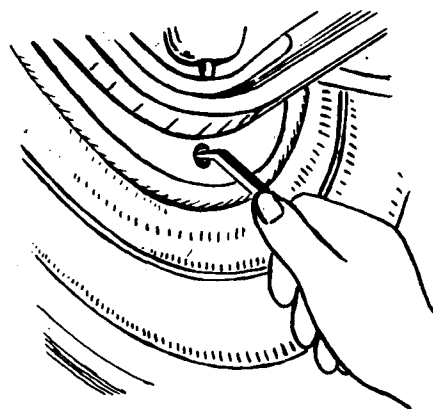

Fig. 1
- c Feche as regulagens das sapatas (fig. 1) e retire os tambores.